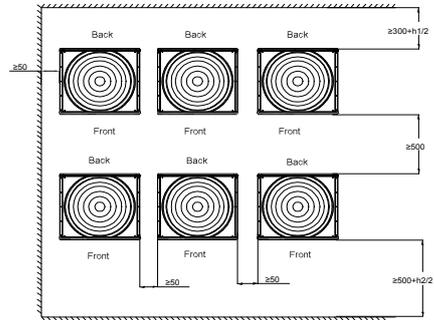

Figure 6
- Obstacles in the front, back and one side, mounting in the same direction (see Figure 6)